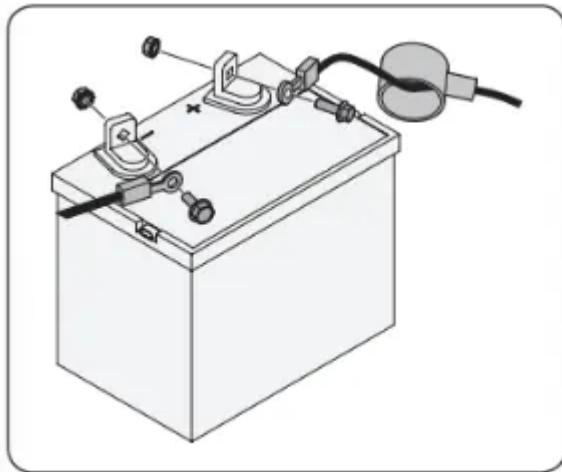

Figure 8
- Remove the plastic cover, if present, from the positive battery terminal and attach the red cable to the positive battery terminal (+) with the bolt and hex nut. See Figure 8.
- Remove the plastic cover, if present, from the negative battery terminal and attach the black cable to the negative battery terminal (-) with the bolt and hex nut. See Figure 8.